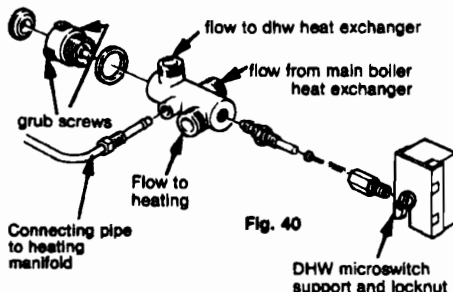

Fig. 40
8.16.6 Remove retaining nut (fig. 40) and remove micro switch pulling tabs off fan overrun. (fig. 44)
8.17.4 Unscrew retaining nut and remove micro switch (fig 40).